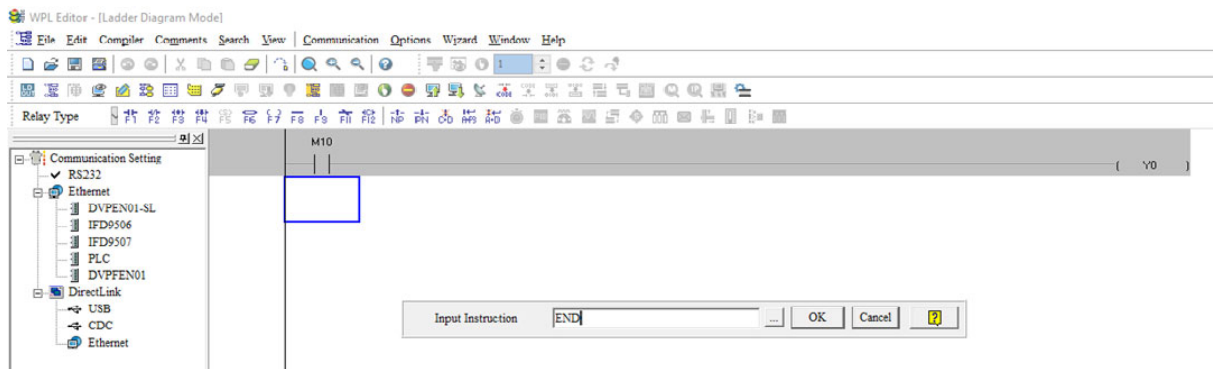

Figure 15-16
Step 4: Press “ENTER” button, when the “Input Instructions” window appears, key in “END” in the field and press the OK button (see figure 15-16 and 15-17 below).